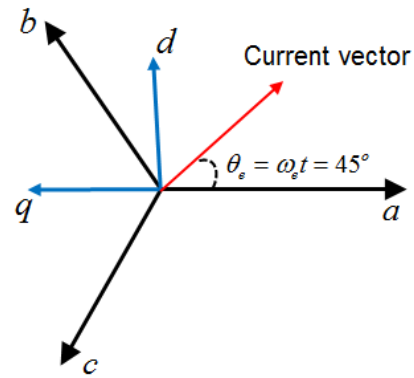

Fig. 1-(b)
- (2) A dq-rotating reference frame is added to Fig. 1. At a particular moment, it is found that the d-axis is leading phase-a axis by 90 degrees while the current vector is leading phase-a axis by 45 degrees (as shown in Fig. 1-(b)). Please determine its instantaneous dq current component values.